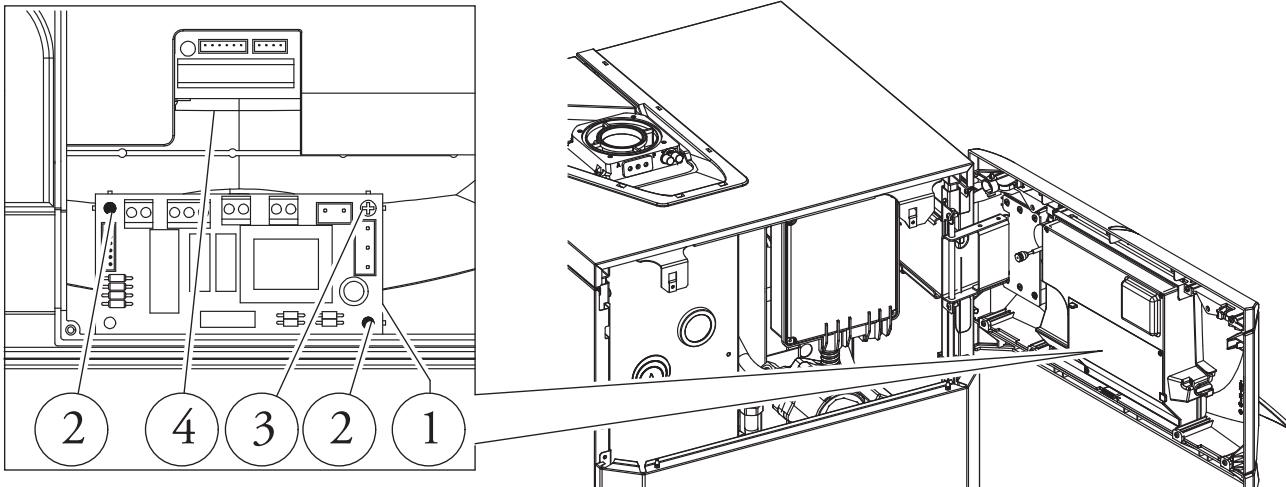

Fig. 2-1
- Open the compartment on the control panel for installation of the relay board (1) (see figure 2-1 on the basis of your boiler model).
- Mount the board making the male pin (2) match the hole in the board (1) and fix it using the cross-head screw (3) (see figure 2-1 on the basis of your boiler model).
- Make the electric connections between the relay board (1) and the boiler P.C.B. (4) using the relative wiring composed of two cables supplied with the kit. Connect the external components according to requirements following the wiring diagrams given on the next pages.